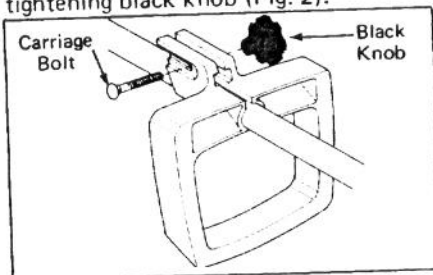

Figure 2
3. Fit carriage bolt through support handle and secure to upper tube by tightening black knob (Fig. 2).
3. Support handle may now be adjusted to desired operating position by loosening black knob, sliding handle to desired height and retightening (Fig. 2).